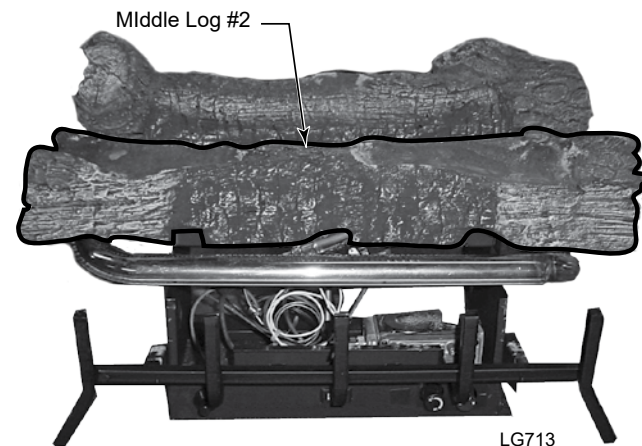

Figure 25 - Place Middle Log
2. Place Middle Log (#2) on middle support. *Figure 25*